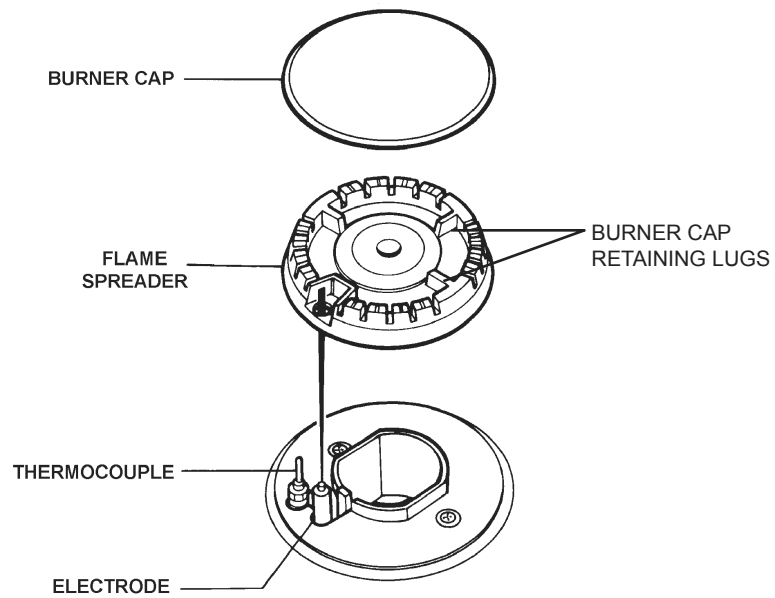
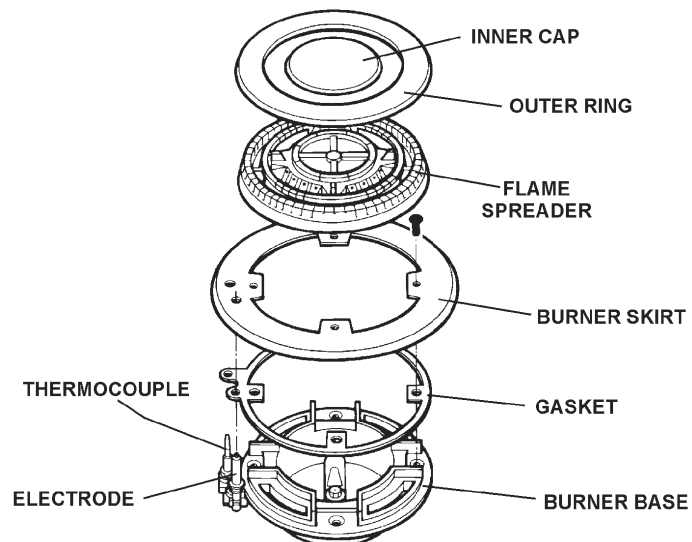

Fig. 10.5
Fig. 10.6
- 2.** Replace module hotplate. Reassemble in reverse order and reconnect the mains wire (See **Electrical Connections**). Ensure burner heads and burner caps are correctly located (See **Fig. 10.5** and **Fig. 10.6**), and electrodes are not damaged.